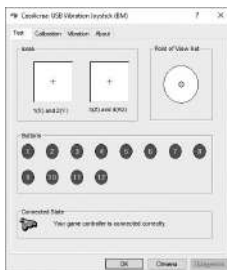

Fig. 10
- To check and configure in DirectInput mode, select Properties in the Game Devices window, and the Properties: USB Vibration Joystick (BM) window pops up. In the «Test» tab, you can check the execution of commands when you press the buttons and rotate the joysticks, and also check whether the joystick is connected to the PC in the «Connected State» line (Fig.10). In the «Calibration» tab, you can center the position of both joysticks (Fig. 10). To do this, you need to set them to the middle position, then click «Default» and «Set». After calibration, you must click «Accept» or «OK» on the bottom line of this window to save the changes.